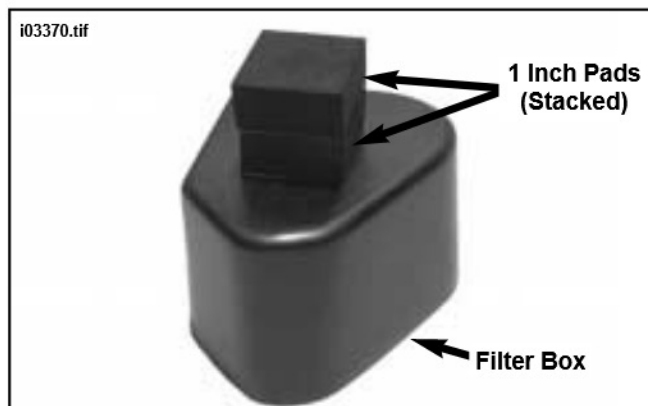

Figure 10. Install Foam Pads to Filter Box
26. See Figure 10 and Service Parts Illustration. Obtain the two 1 inch foam pads and filter box from kit. Remove adhesive backing from pads and orient as shown. Install (stack) one on top of the other, then install both to filter box as shown.